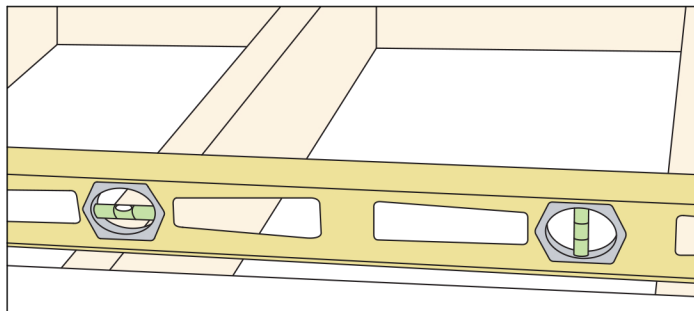

Figure 4
4. Level the part of the floor where the front and the back of the pan will be sitting. **See Figure 4**